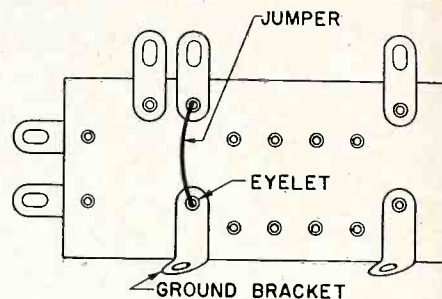

Fig. 1. Inside view of tuner terminal board.
In the case of intermittent tuner trouble in 6J6 or early 12AT7 tuners, it has been found that the eyelet shown in Fig. 1 is not making a good electrical connection with the ground bracket at high frequencies and causes an intermittent condition. If the tuner is suspected
4. Run solder between eyelet and ground bracket shown in Fig. 1.